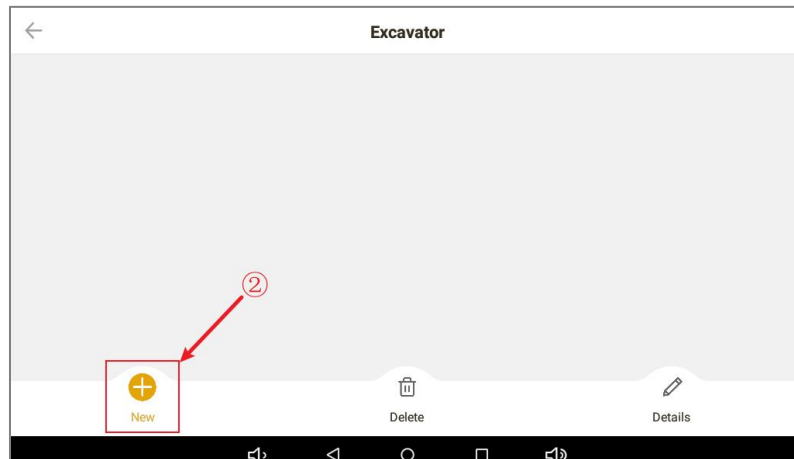
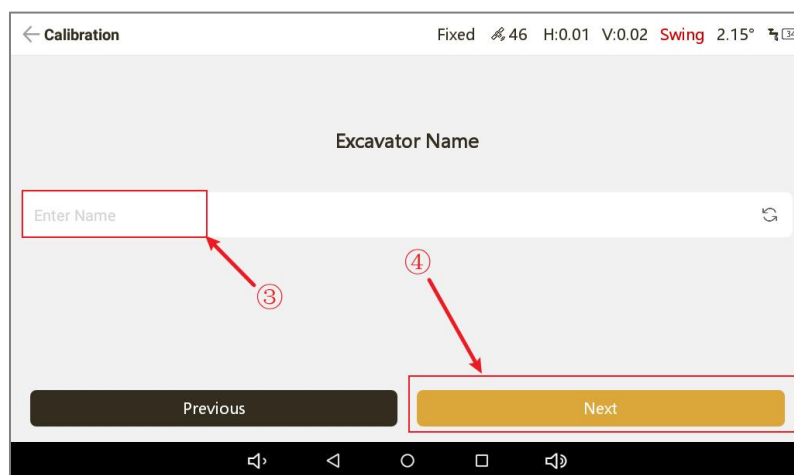

Figure 3-22
Figure 3-23
- ② Tap 'New' at the bottom of the 'Excavator' screen, as shown in Figure 3-22. This redirects to the parameter configuration page, as shown in Figure 3-23. Enter the excavator name, then tap 'Next' at the bottom.